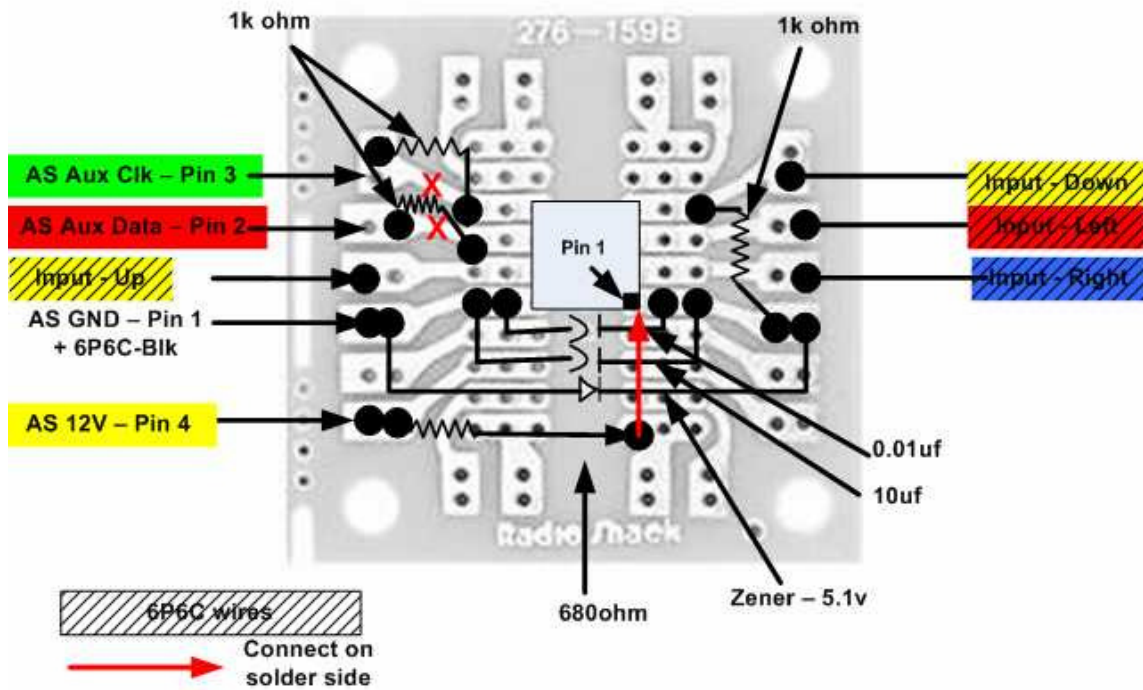

Figure 1: Component layout showing circuits connected
8. Strip and attach the coily cord wires to the board. The cable is quite long so cut it to the size you want , strip off the jacket and then strip the individual wires. Attach as shown in solid colors on figure 1. Be careful when stripping to not nick the wires as this will decrease the strength.
Insert the chip with pin 1, indicated by the little indented circle on the chip, to the lower right pin of the socket - pin 1 (see Figure 1 below)
You can now solder in the 6P6C connector leads, attaching the leads as indicated in the color code of the diagram (see figure 1) Do not solder in the white wire, cut off the stripped end only.